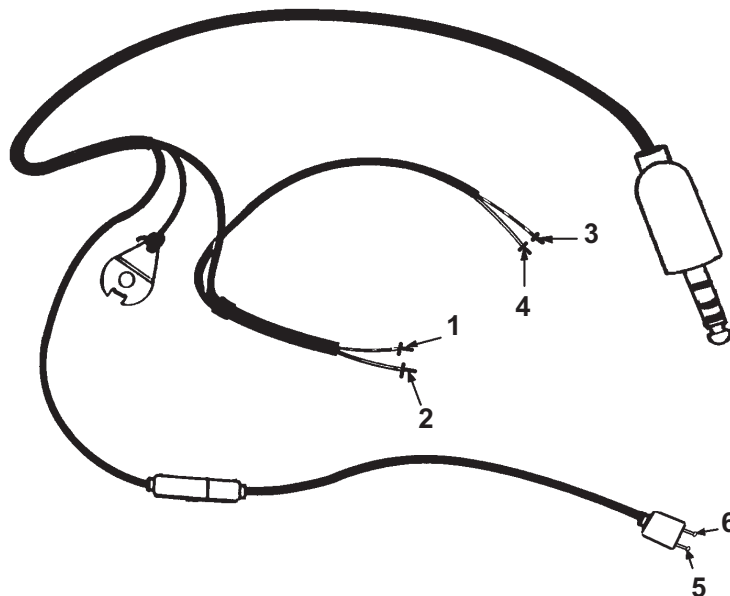

Figure 4-1. Test Points for Test 1
Step 3. Using a multimeter, refer to Figure 4-1 and perform Test 1 in accordance with the chart below. If no failure is detected, proceed to step 4. If a failure is detected, replace the communication cord in accordance with paragraph 4-3.6. Proceed to step 5.